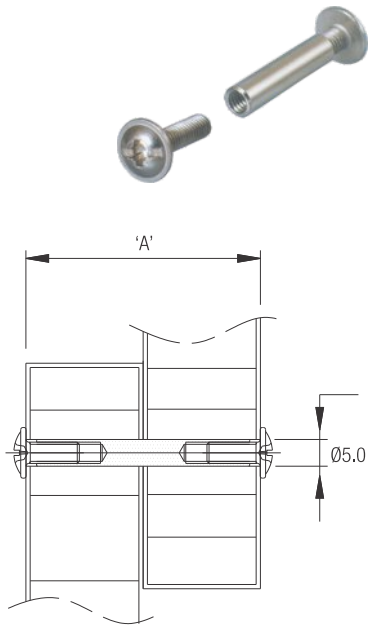

Fig. 1
2. Push the sleeve through the hole (Refer Fig.1).